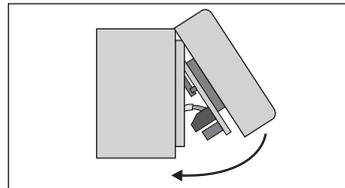

Figure 5
- 8 Then **carefully** locate the top of the front cover onto the top of the wall plate and hinge down to snap securely in place (see *Figure 5*).